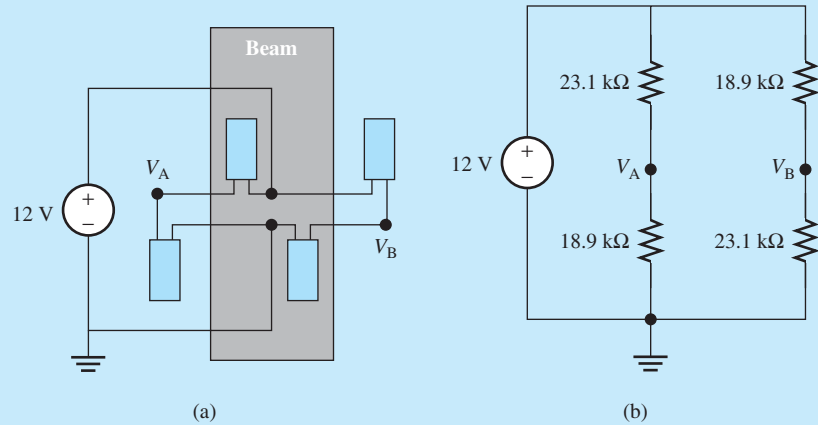

FIGURE 3.90 (a) The strain gage and (b) its equivalent circuit.
Strain gage has already been introduced and discussed in Example 3.10. Resistive strain gages are often connected in groups of four, as shown in Figure 3.90(a), known as quad cells. These groupings are to eliminate the effect of the surrounding temperature on the strain reading. Only two of the gages are connected to the beam.
- a. The equivalent circuit of Figure 3.90(a) is sketched in Figure 3.90(b). This structure is called a *Wheatstone bridge*. Here, the approach of $R_{th} = V_{oc}/I_{sc}$ is used. The open-circuit voltage V_{oc} is across the terminals A and B, that is, when A and B are detached (open-circuited), and I_{sc} is for the scenario that these two terminals are connected (short-circuited).